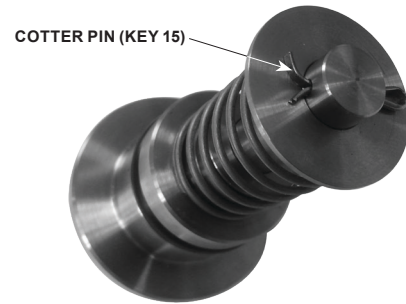

Figure 6. Proper Bending of Cotter Pin (key 15)
7. Install the disk assembly (key 13) and secure it with the cotter pin (key 15). Bend the cotter pin end using pliers or equivalent tool (see Figure 6).